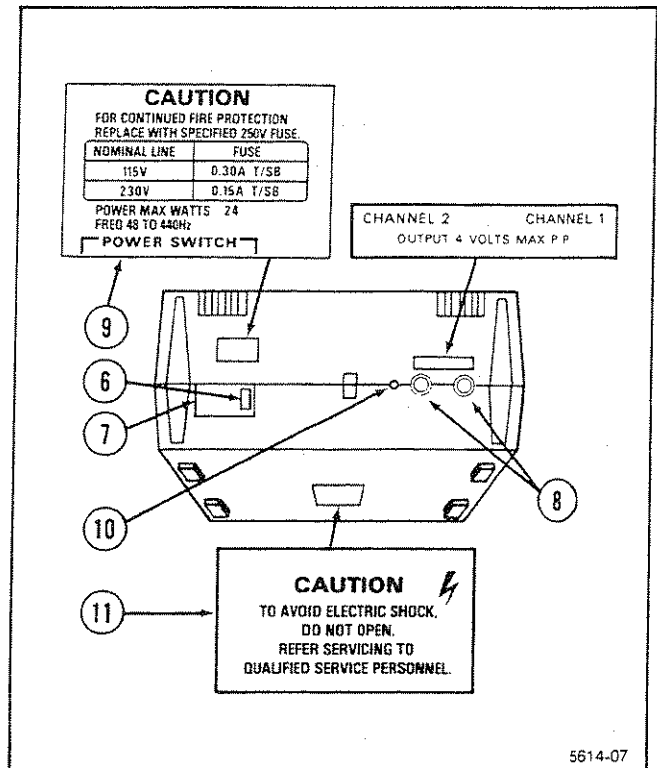

Figure 2-6. Rear- and bottom-panel controls, connectors, and labels.
Refer to Figure 2-6 for the location of items 6 through 9.
- ⑥ **POWER SWITCH** controls application of ac power to the Isolator. An indicator light on the front panel is actuated when the power switch is in its "on" position (1).
- ⑦ **POWER CONNECTOR/VOLTAGE SELECTOR** allows the connection of the ac power cord to the Isolator. The connector is an IEC connector, and includes the Voltage Selector/Indicator for alternative line voltage, (fully discussed in the "Preparation For Use" section of this manual.)
- ⑧ **OUTPUT VOLTAGE** connectors make available the output of Isolator Channels 1 and 2.
- ⑨ **CAUTION** label provides fuse replacement and line voltage information.
- ⑩ **EARTH-GROUND CONNECTION** is a standard banana-plug connector attached to the Isolator chassis ground.
- ⑪ **CAUTION** label warns operators not to open the A6902B case.
Refer to Figure 2-6 for the location of item 11.
Refer to Figure 2-6 for the location of items 6 through 10. **CAUTION** label warns operators not to open the A6902B case.